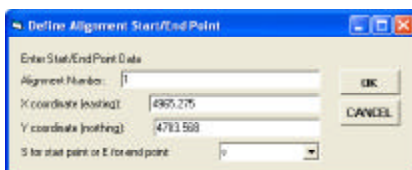

Figure 6
2. As shown in Figure 6, click at the:
The only parameter that needs to be responded to in Figure 6 is the last one, which indicates whether the start or end point of the horizontal alignment is being defined. Selecting the *S* option denotes that the user has selected the location of the horizontal alignment's start point. The top three parameters are for visual inspection only. Altering these values will not effect the position of the start or end point.